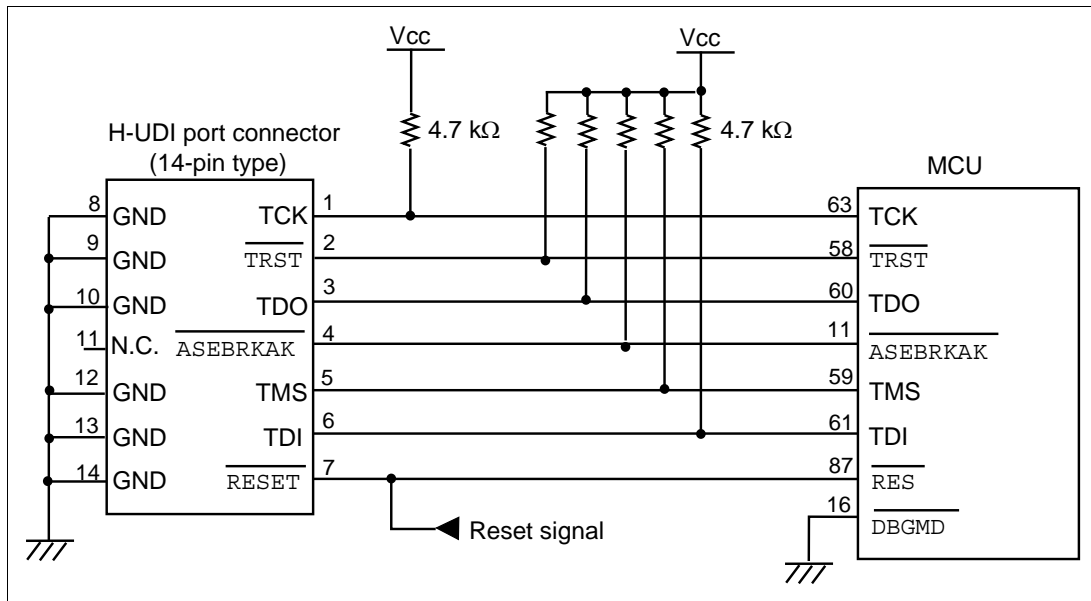

Figure 4.2 Recommended Circuit for Connection between the H-UDI Port Connector and the MCU (14-Pin Type)
Figure 4.2 shows a recommended circuit between the H-UDI port connector (14 pins) and the MCU.
- (1) When the emulator is used: /DBGMD = low
- (2) When the emulator is not used: /DBGMD = high
6. The resistance values shown in figure 4.2 are recommended.